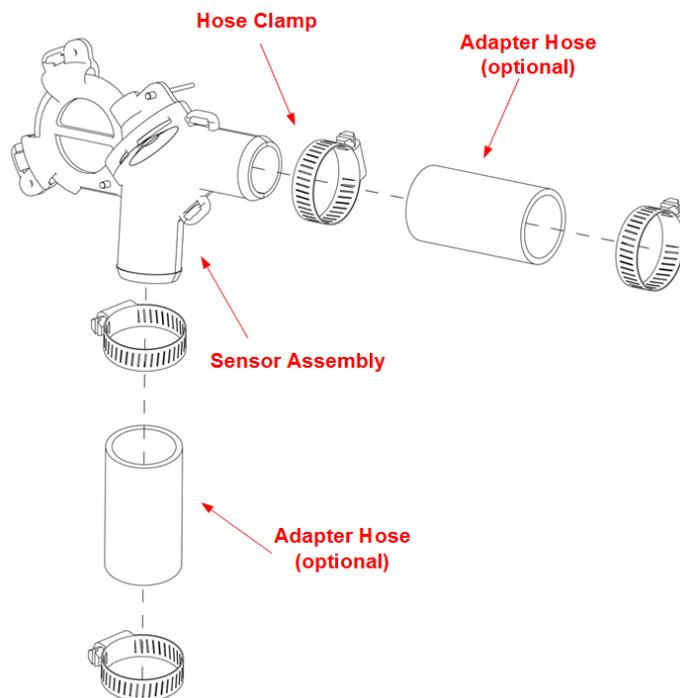

Figure 8: 1.25-inch flow sensors installed on a manifold
1. Attach adapters to the flow sensor, if needed, as shown in Figure 8. Secure using hose clamps.